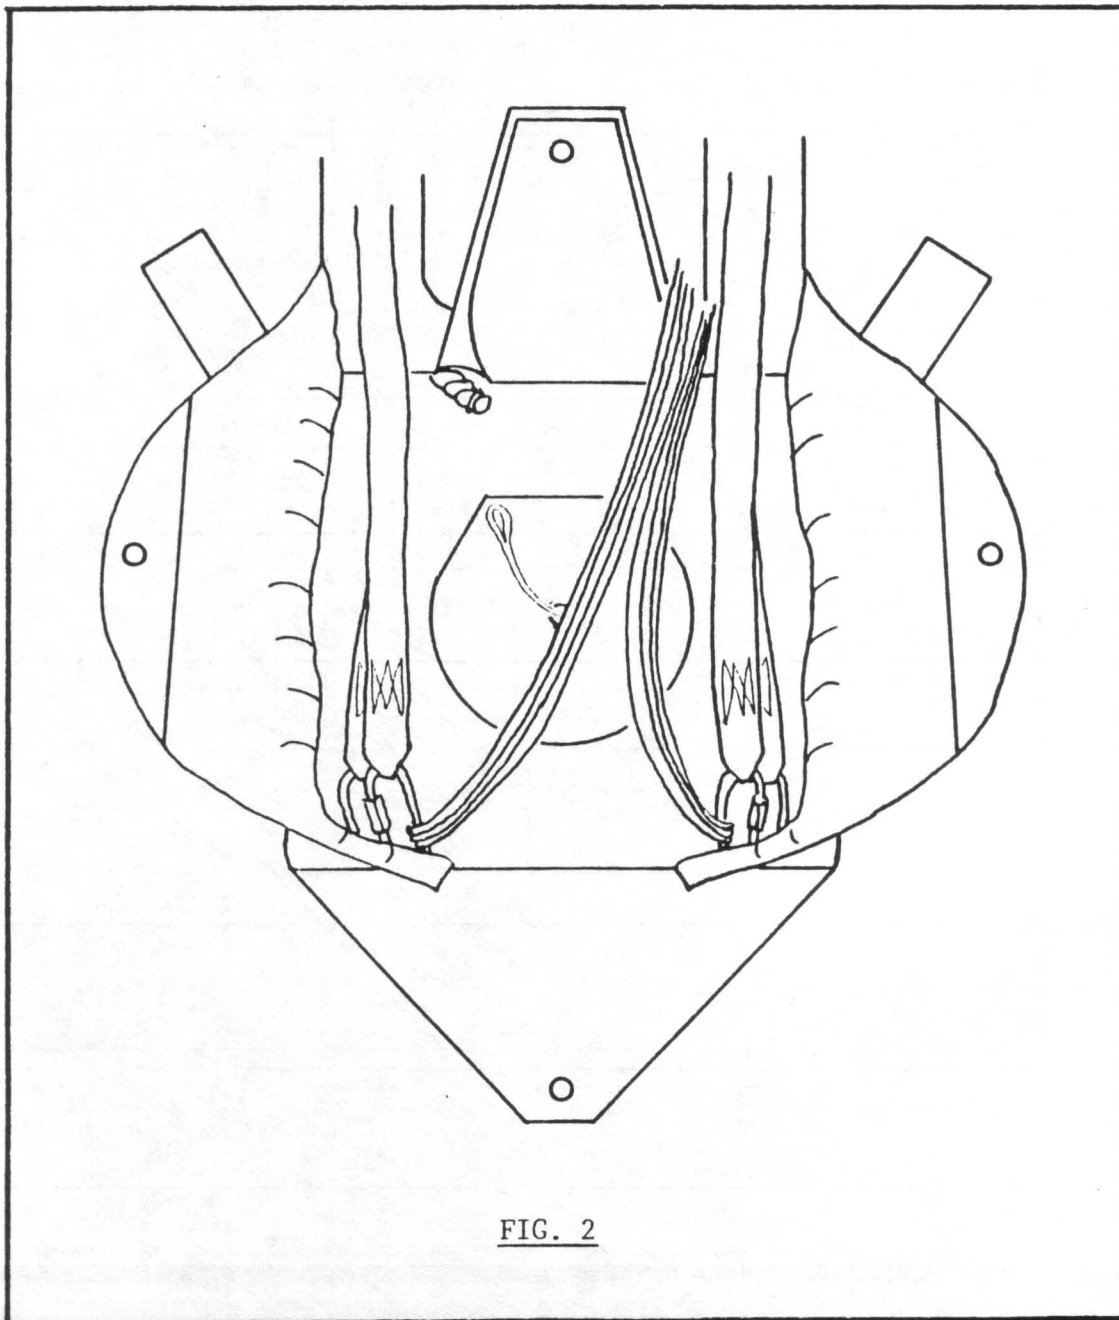
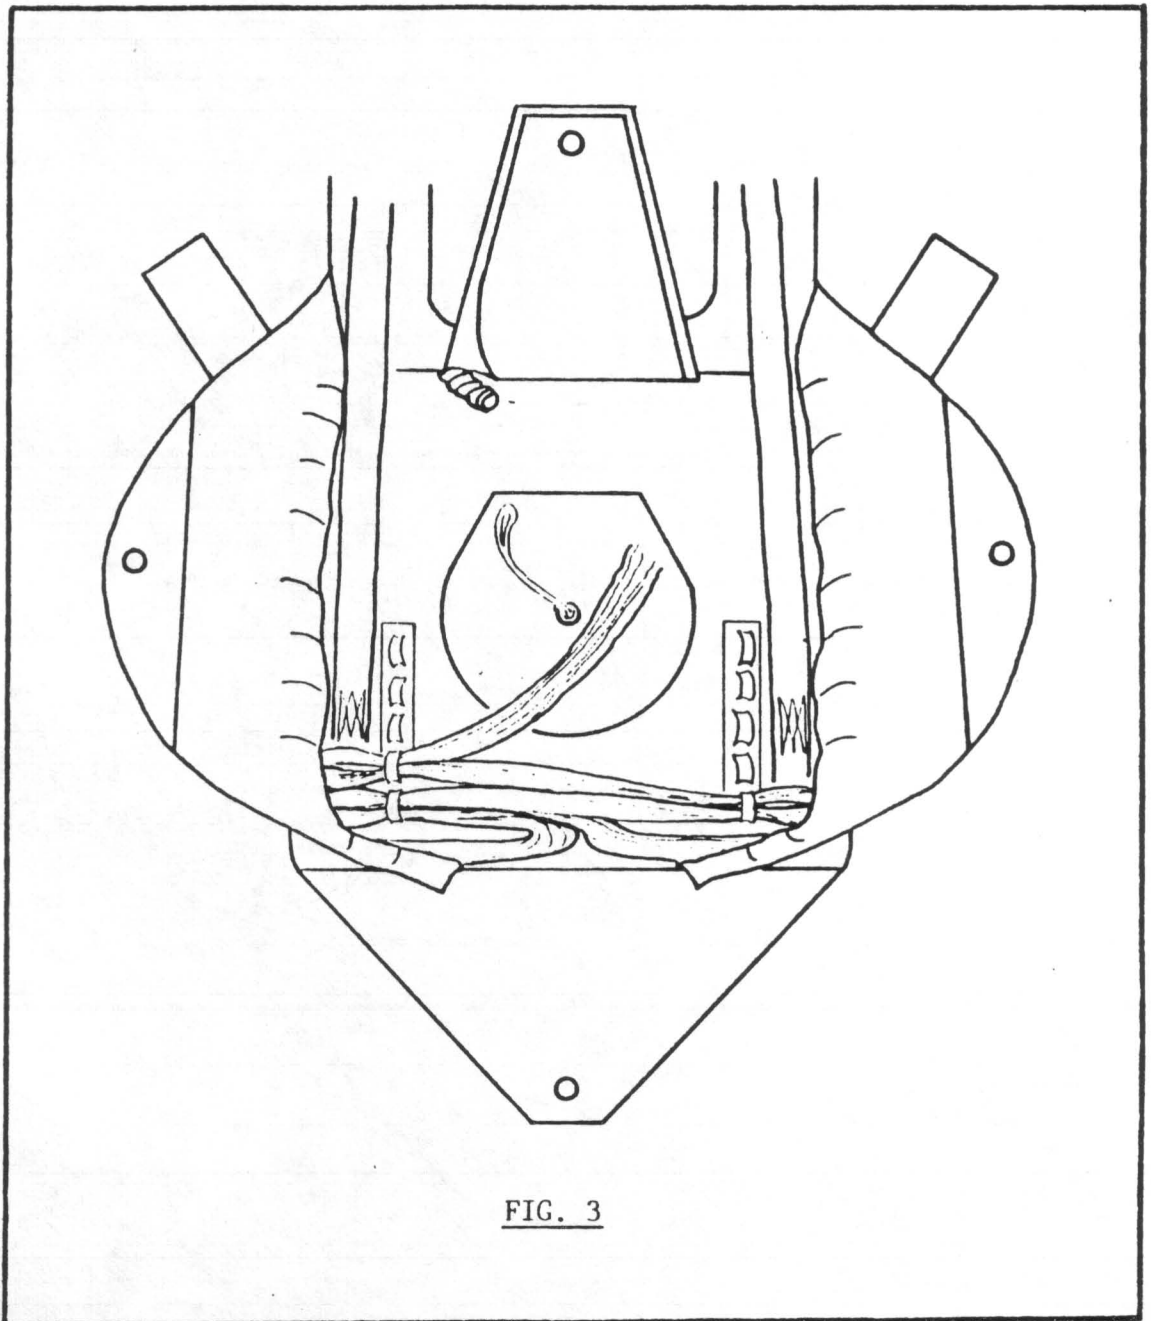

FIG. 2
FIG. 3
- 4a) If the canopy is equipped with a full diaper, all stows of the suspension lines will be made on the diaper. Do this in accordance with the canopy manufacturer's directions. Then lay the risers in the reserve container so that the connector links are in the lower corners (FIG. 2), and go to STEP 5.
- 4b) If the reserve canopy has no diaper, or is equipped with only a partial diaper, the suspension lines must be stowed in the container. Lay the risers in the container so that the connector links are in the lower corners(FIG. 2), and make the first stow of suspension lines in the lower left corner. Continue upward, making the stows the full width of the pack tray. (FIG. 3).